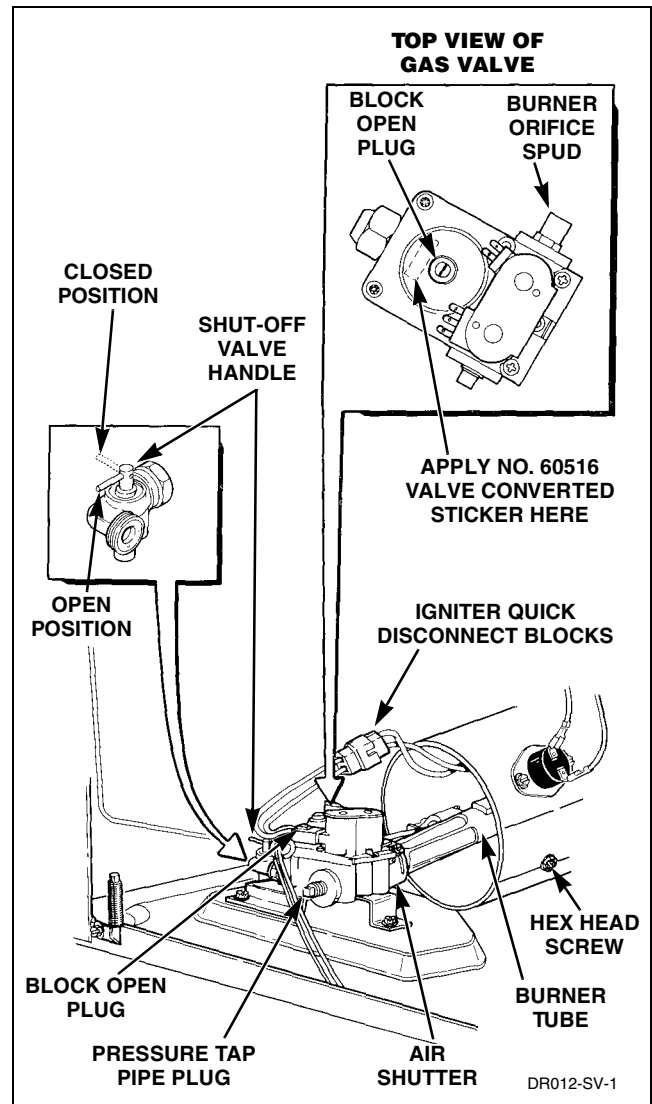

Figure 48
To reduce the risk of fire or explosion, reach in through access door opening and turn the gas line shut-off valve handle to the closed position, *Figure 48*.
- Disconnect igniter wires at quick disconnect blocks. Refer to *Figure 48*.
- Remove hex head screw holding burner tube and igniter in place. Refer to *Figure 48*.
- Remove the block-open plug and install No. 58768 Vent Screw. Refer to *Figure 48*.
- Install No. 60516 "Valve Converted to Natural Gas" sticker to top side of gas valve, so it covers the gas valve part number. Refer to *Figure 48*.
- Turn the gas line shut-off valve handle to the open position and connect electrical service. Refer to *Figure 48*.
- (1) Remove pressure tap pipe plug. Refer to *Figure 48*.
- (4) Stop dryer and remove “U” tube and reinstall the pressure tap pipe plug. Refer to *Figure 48*.